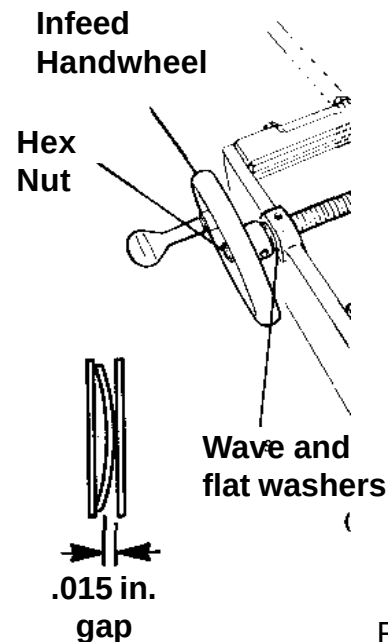

FIG. 46
C. Check for .015 in. [.04mm] gap between the wave washer and the flat washer. See FIG. 46. Re-adjust the hex lock nut if necessary.